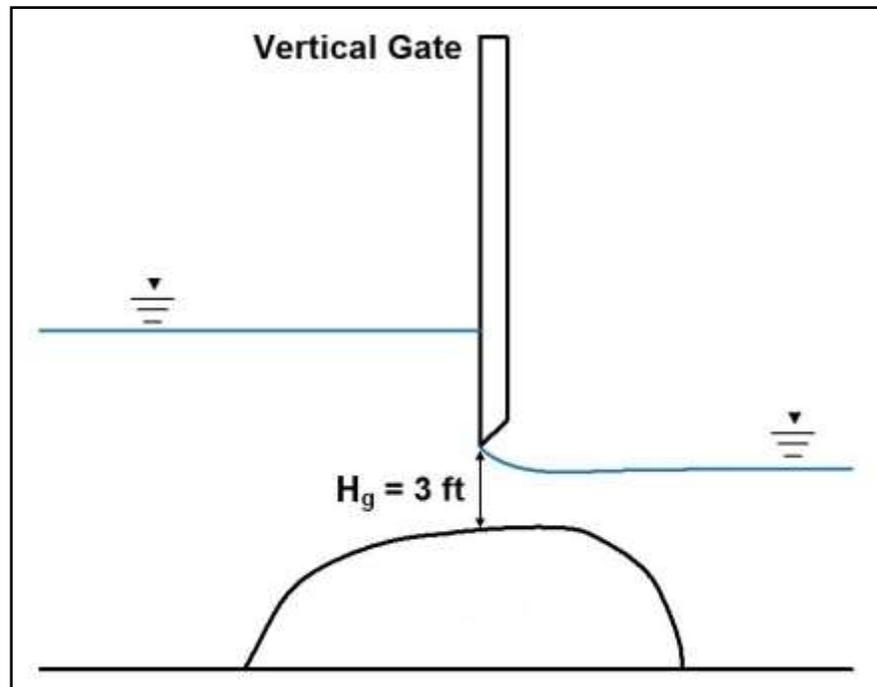

Figure 5 Height of gate opening
8. Enter “3” in the *Height of Gate Opening* (H_g). This represents the opening measured vertically from the base of the structure to the top of the gate opening as shown in Figure 5.